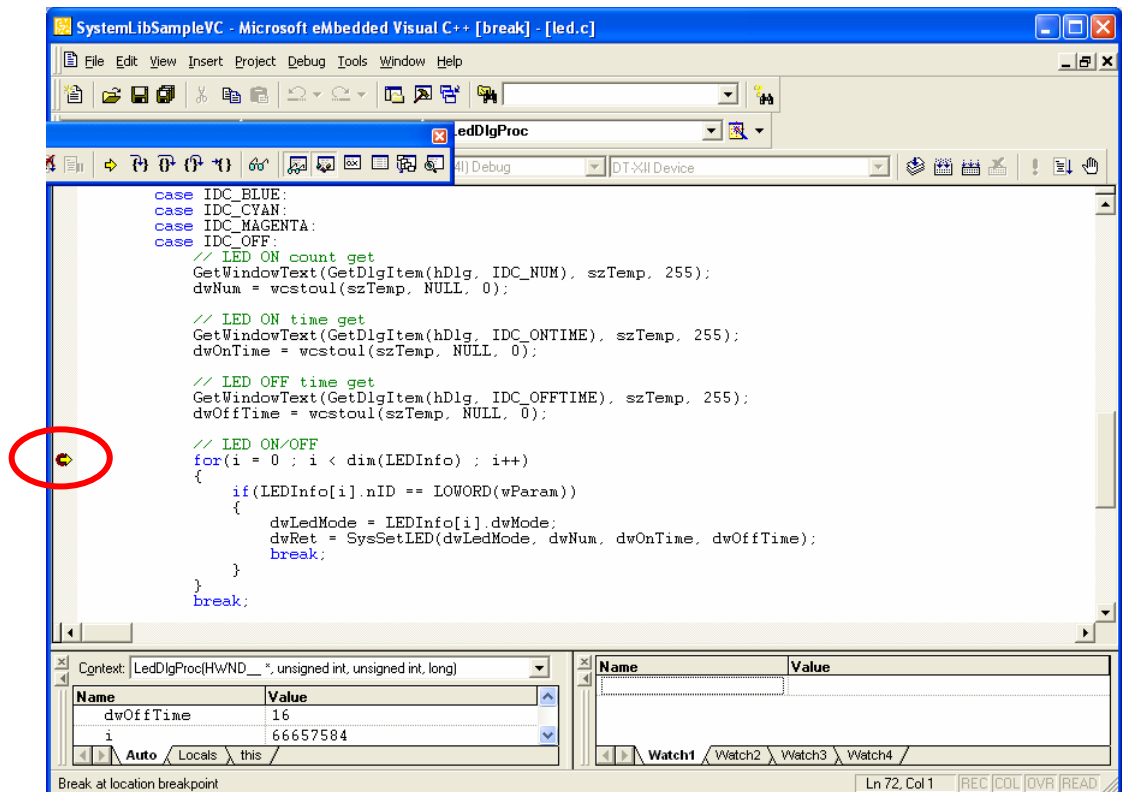

Figure 7.22
3. Similar to ordinary debugging operations with an actual DT-X11, the **Device Emulator** allows break point setting (circled in red in Figure 7.22) in the source code and step-by-step debugging.